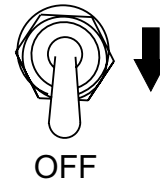

Figure 31. Operation Switch (OFF)
4. To shut-down the engine, place the generator's operation switch (Figure 31) in the **OFF** position).